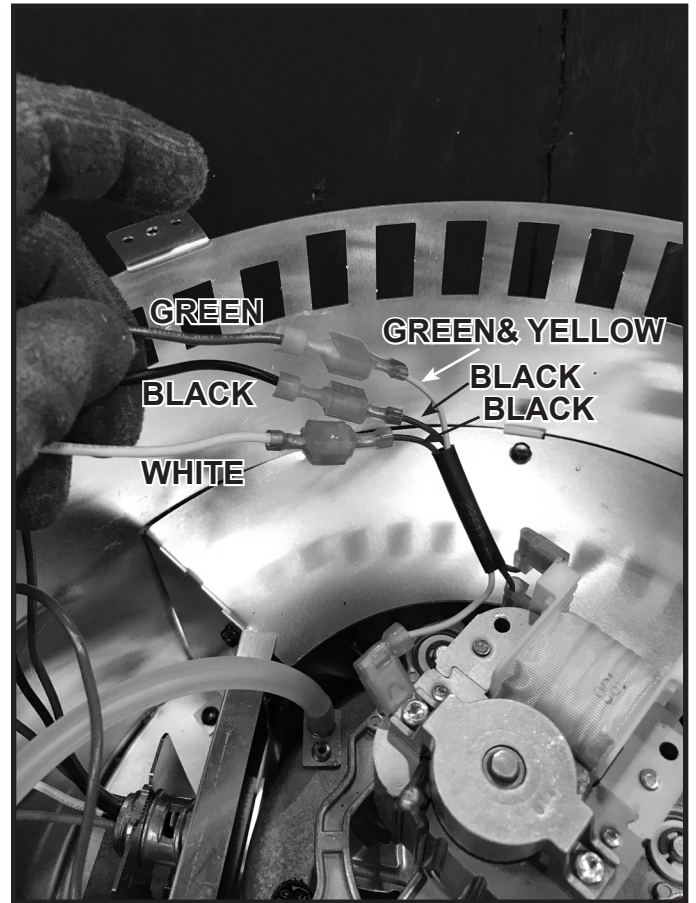

Figure 3.15
10. Attach the white and black wires from the PVI harness to the two black wires coming from the blower. Attach the green wire from the PVI harness to the green/yellow wire coming from the blower. See Figure 3.15.